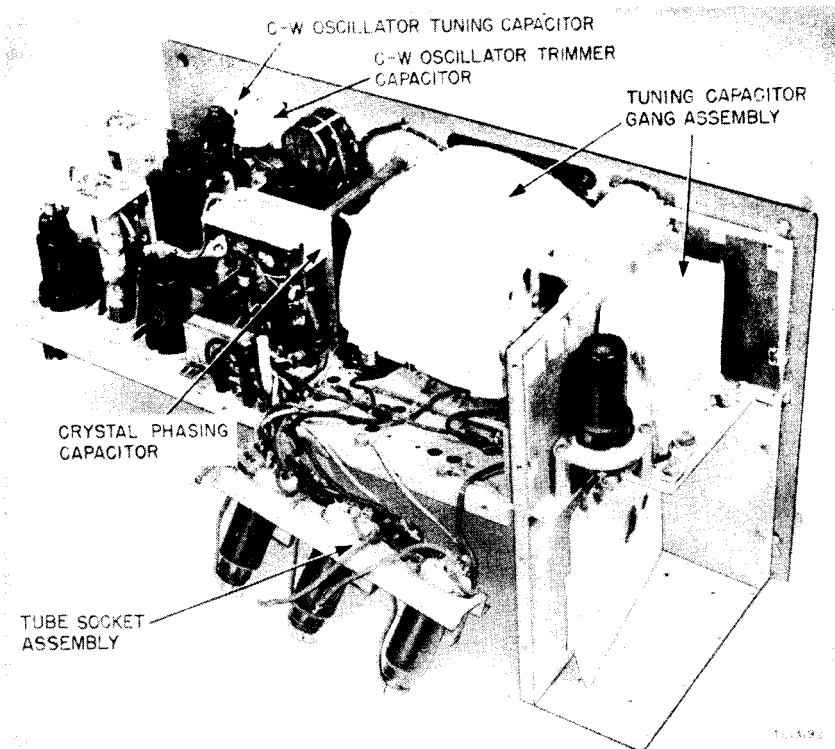

Figure 14. Up rear view of receiver chassis masked for moistureproofing and fungiproofing.
(3) Remove the first r-f, second r-f, detector alignment screw shields, and the r-f wiring, first detector transformer, first i-f transformer, second i-f transformer, c-w oscillator, and r-f oscillator shields.
(4) Disengage the r-f tube socket assembly from the chassis and allow the assembly to hang freely on wiring. (See fig. 14.)
- (5) Remove the power plug shield.
- (6) Set BAND-CHANGE switch to band A, loosen setscrew, and remove the knob.
- (7) Remove setscrew in drive gear of band switching assembly and pull out shaft which interconnects switch sections.
- (8) Unsolder the 20 leads interconnecting the first r-f, second r-f, and first detector sections. Tag each lead so that it can be replaced properly.
- (9) Remove the first r-f, second r-f, and first detector sections and remove the cover plates from each section.
- (10) Unsolder the four leads from the r-f oscillator section and tag each lead respectively.
- (11) Remove the r-f oscillator section and remove the cover plate.
c. DISASSEMBLY OF RADIO RECEIVERS BC-342-(*) AND BC-344-(*). (1) Loosen the panel locks holding the receiver chassis to case, and remove chassis.
e. **MASKING.** Cover the following components with masking tape as shown in figures 14, 15, and 16.
(1) C-w oscillator tuning and c-w oscillator trimmer capacitors. (See fig. 14.)
(2) Crystal phasing capacitor. (See fig. 14.)
(3) Tuning capacitor gang assembly. (See fig. 14.)